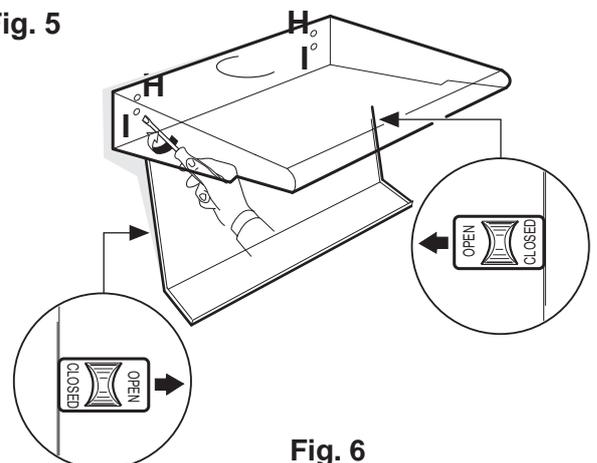

Fig. 6
- From inside the hood, insert the third 5x45 screw into hole I (Fig. 6).